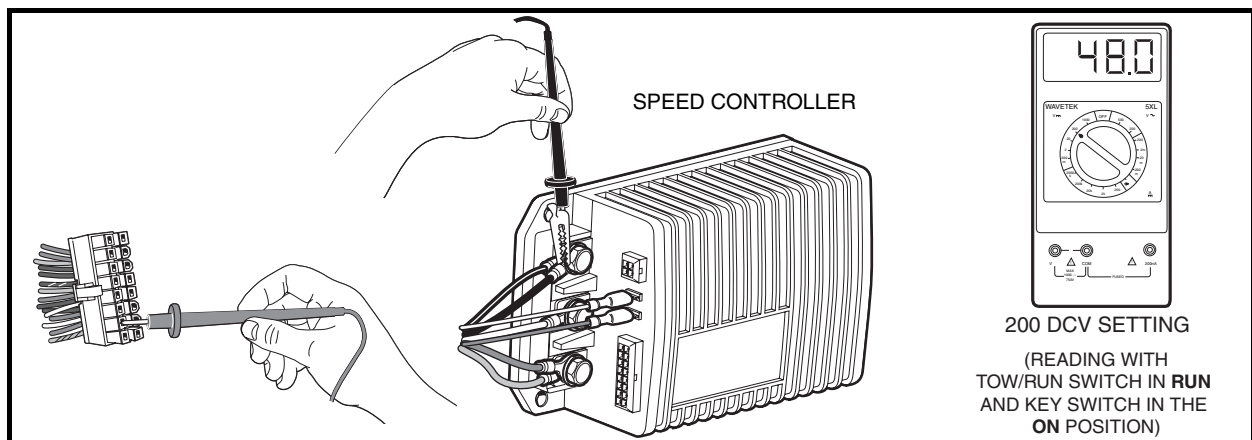

Figure 11-19 Pin 10 Test
4. With a multimeter set for 200 volts DC, insert the red (+) probe of the multimeter into pin 10 (tan wire) of the 16-pin connector. **See following CAUTION.** With an alligator clip, connect the black (–) probe to the B– terminal of the speed controller (**Figure 11-19, Page 11-30**).